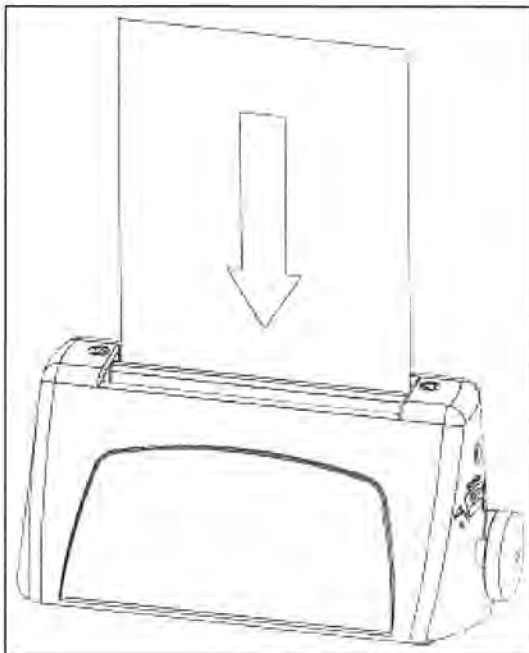

Figure 3
3. Insert up to four sheets of paper into the rear slot, identified by arrows (Figure 3), until the paper stops, approximately 1 1/2" into the folder. There will be a brief time delay before the folder starts the folding cycle. Once the folder starts, release the paper and allow the paper to be taken by the folder. For accurate folds, hold your document at the top center of the sheets. The folder functions best when the paper is held very lightly allowing it to square itself on the folding rollers.